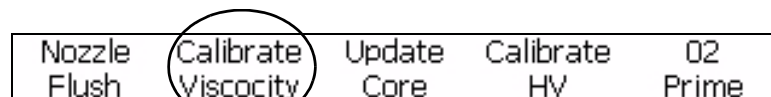

Figure 4-52: Viscosity Calibration
- 7 Perform viscosity calibration. Follow the prompts provided by the printer, assuming that the ink is known perfect ink (see Figure 4-52 (01 Edit > 02 Edit > 03 Edit > 04 Edit - Service Printer > 01 Service > 02 Service > 03 Service - Auto Prime > 01 Prime > 02 Prime)).